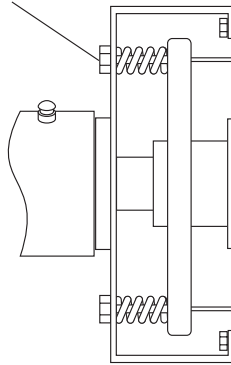

Figure 42. Drum Seal Adjusting Nuts
2. As the seals naturally wear, material will seep from the drum head. Tighten the adjusting nuts (Figure 42) equally until a slight pressure is felt. The seals are now tight. This procedure should be done periodically as the seals leak.